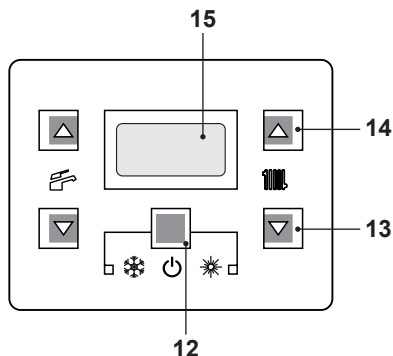
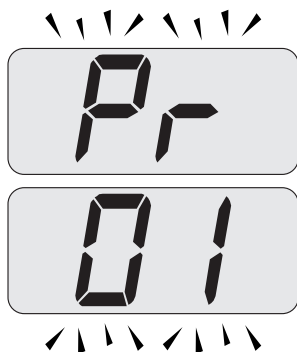

Fig. 9.3
Fig. 9.4
- Enter in "programming mode" by sequentially pressing keys 12 - 13 - 14 (Fig. 9.3) for 10 seconds until the letters **Pr** that alternate with code **01** are displayed on the LCD display, indicating that "parameter 01" (Fig. 9.4) has been activated.
- Press keys 12 and 14 (Fig. 9.3) at the same time until the value of parameter 05 (00=G20) is displayed on the LCD display (Fig. 9.6).
- By pressing key 14 three times, it is possible to change the value of parameter 05 from **00**=G20 to **05**=G31, which is ok for LPG gas.
- By pressing key 12 (Fig. 9.3) confirmation of the inserted value is obtained.
- Press keys 12 and 13 (Fig. 9.3) at the same time to exit without changing the value (return to the parameters list Fig. 9.5).
- Press sequentially keys, 12 - 13 and then 14 (Fig. 9.3) and hold in for 10 seconds to exit the "programming mode".